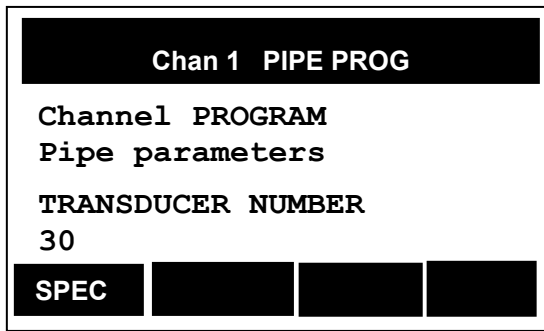

Figure 12: Screen after pressing PIPE key
21. Enter the *Transducer Number* (figure 12). The transducer number is inscribed on the transducer. The standard, red transducer in the kits is #30. Press the [ENTER] button.